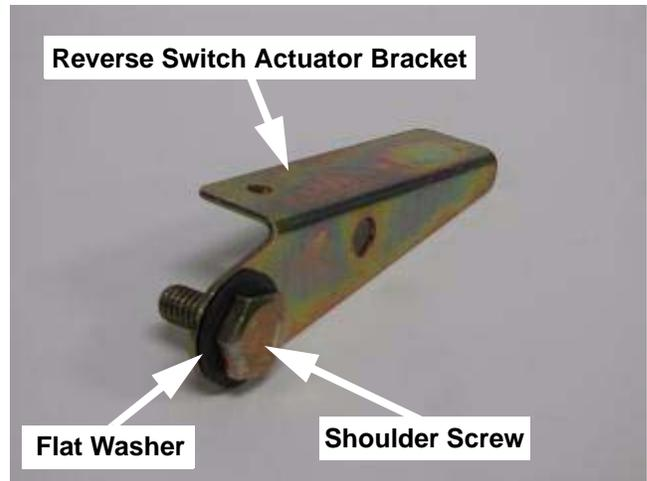

FIGURE 5
19. Install the reverse switch actuator bracket (Ref.# 1) onto the shoulder screw as shown in Figure 5.
20. Install the shoulder screw with assembled parts as shown in Figure 5 into the 5/16" hole that was drilled in the forward/reverse shaft assembly/clutch cam.